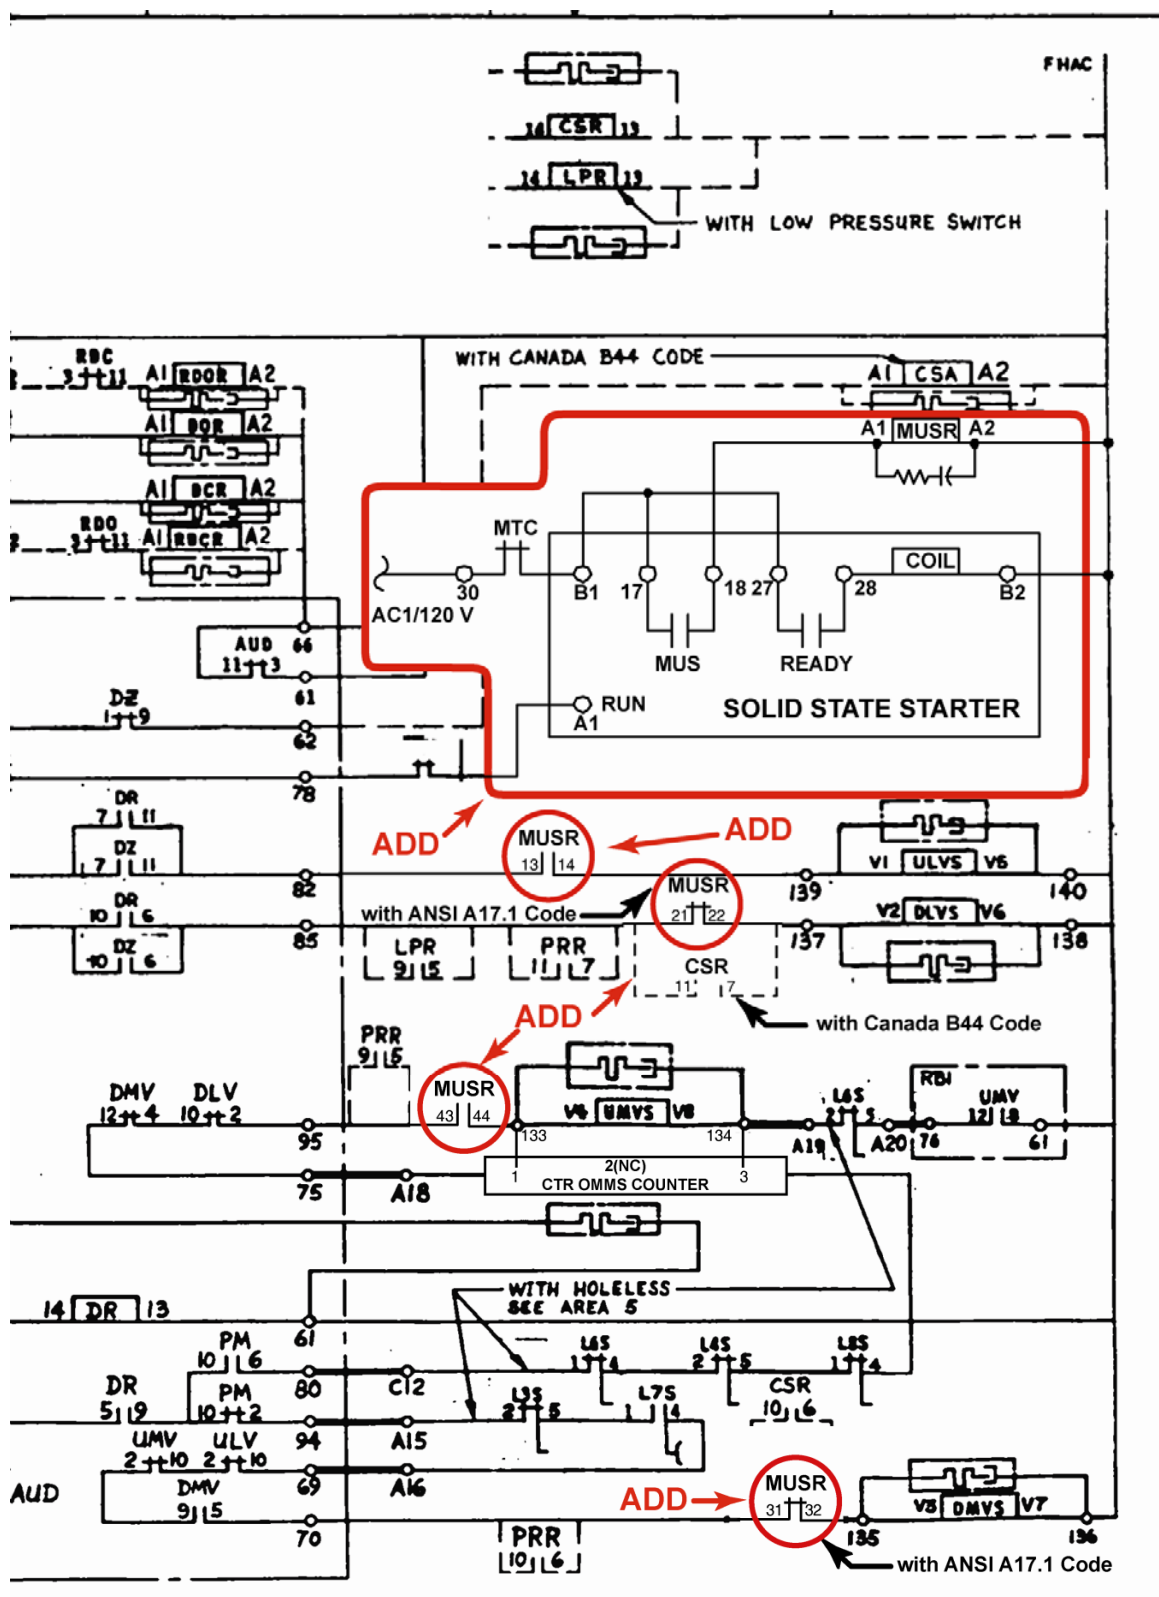

Figure 15: Solid State Starter and MUSR with PM Contact on 120 VAC Side of Run Input
- For Controller Type 2, refer to Figure 15.